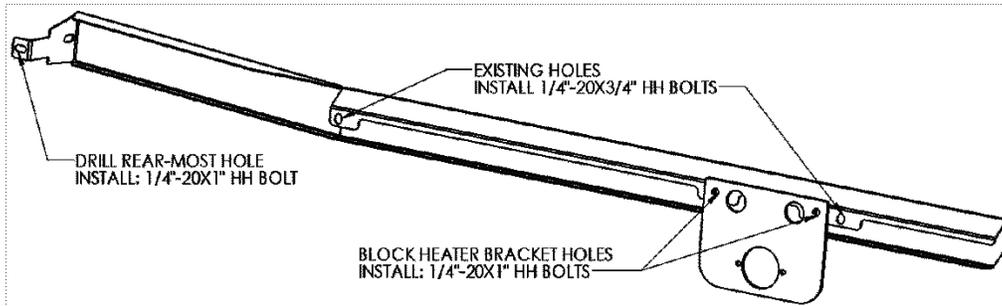

FIG. 2 – DRIVER CAB PANEL, SHOWN FROM BACK
3. Temporarily fasten Cab panel to truck using the supplied ¼"-20 X ¾" hex head bolts through the existing (2) holes in truck (See Figure 2). Ensure the top of the skirt is snug up against the truck to minimize the gap.
4. Mark rear-most Cab panel hole to be drilled (See Figure 2).
6. Reinstall Cab panel and fasten in place with supplied hardware. At the same time, fasten the replacement Block Heater Bracket in place of the original bracket. (use ¼"-20X ¾" hex head bolts in existing truck holes (x2) a were temporarily installed in step 3, use a ¼"-20X 1" hex head bolt in the (1) rear-most Cab panel hole that was drilled in step 5, and use ¼"-20X 1" hex head bolts (x2) in Block Heater Bracket holes. Use (2) flat washers and a locknut at each fastener. (See Figure 2).